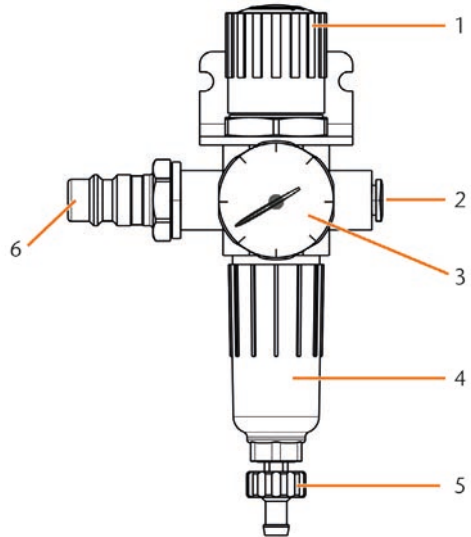

Fig. 8: The service unit:
- Mount the service unit in an upright position (⇨ Fig. 8). On the left side of the CNC machine are two drilled holes which you can use to mount the service unit on the machine.
M2. Use the provided pneumatic hose to connect the right pneumatic connection of the service unit [Fig. 8, 2] with the pneumatic connection of the machine.
M3. Connect the external compressed air supply with the left pneumatic connection of the service unit [Fig. 8, 6].
M6. Check the air pressure on the manometer [Fig. 8, 3]. If it does not lie between 6 bar and 8 bar, adjust it with the service unit (↪ chapter 4.4.4)